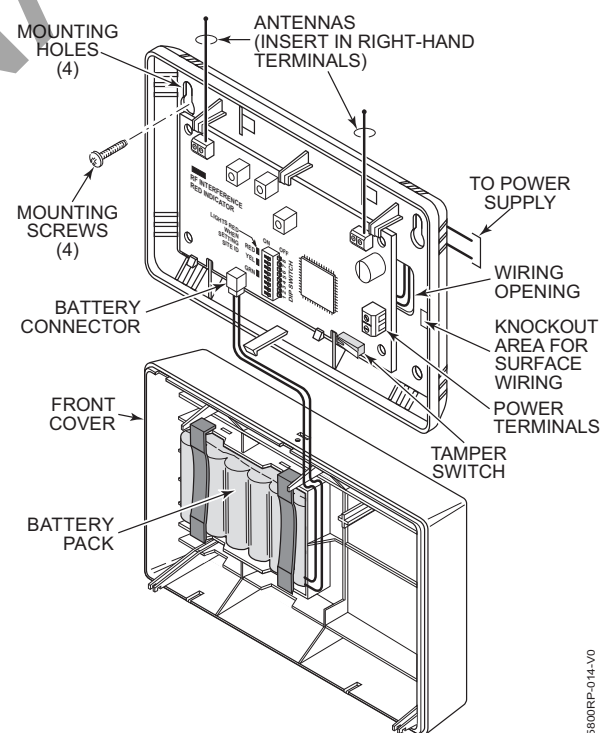

Figure 3: Mounting the Module
- For concealed wiring, route power wires through the rectangular opening at the rear of the base before mounting. See Figure 3.
- Connect the transformer to the 5800RP-ADT's terminals. Refer to Figure 3. These terminals are not polarized. The leads from AC transformer may be connected to either terminal. Do not connect to a receptacle controlled by a switch.
- Plug the battery cable into the battery connector on the 5800RP-ADT PCB. See Figure 3.